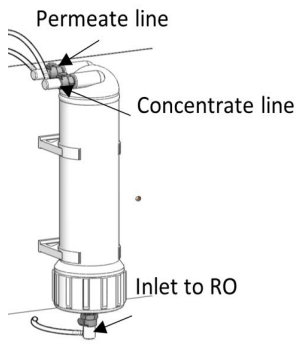

Figure 34. RO Assembly and Quick Connections
- c. Plug the three quick connectors into the RO assembly as shown in **Figure 34**. The connectors are secured when an audible “**click**” can be heard.